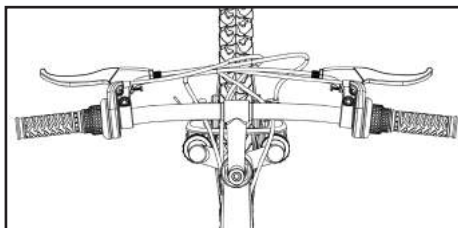
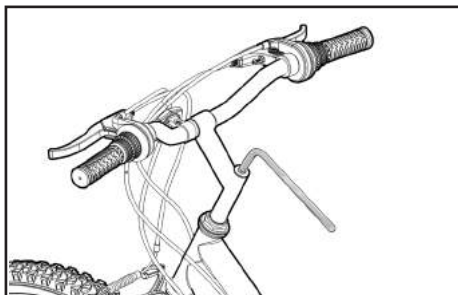
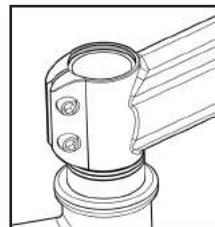

Figure 18
Figure 19
Figure 21
The stem should be pointing towards the front of the bike, aligned with the front tire (see Figure 18). Depending on the type of bolt, tighten the stem bolt with either (B) an adjustable wrench or (C) a 4, 5, or 6 mm Allen wrench (see Figure 19).
Loosen the bolts on the side of the stem, slide the stem into place, making sure it lines up with the fork (see Figure 18). Check the gap between the steerer tube and stem, ensuring there is enough space to reinstall the cap and bolt. (See Figure 21) If you need it higher or lower, your local bike mechanic can help you out with the adjustment. Snug the pre-load bolt on top. Then tighten the two bolts on the side of the stem, alternating each bolt.